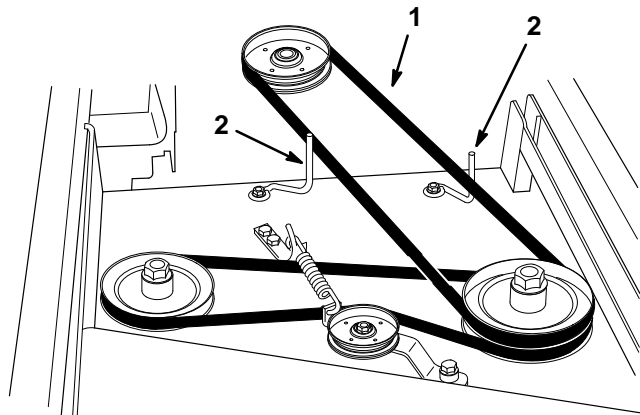

Figure 7
9. Check the position of the belt guides. The guides should be positioned about 1/8" (3 mm) away from the belt (Fig. 7). Adjust the belt guides as necessary.